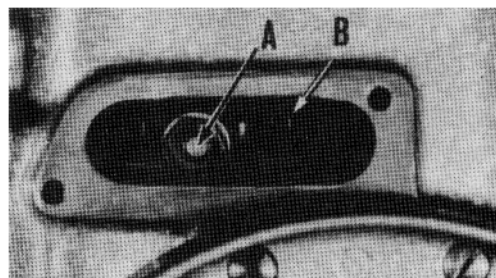

Fig. 2
Set the zig-zag motion to the maximum travel that the needle hole in the throat plate will permit. This can be accomplished by moving the ball joint (A, Fig. 2) in the segment lever (B) located under the cover directly above the handwheel on the right side of machine. Moving it away from the operator increases the zig-zag motion and toward the operator acts the reverse.